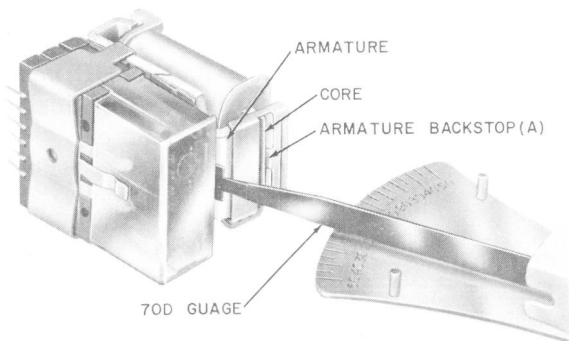
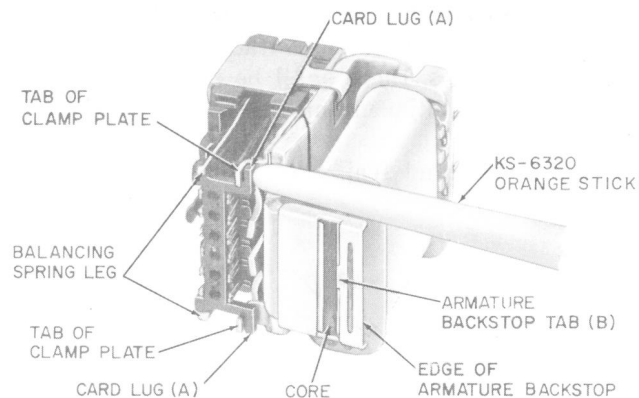

Fig. 4—Measuring Armature Back Tension
Fig. 5—Checking Balancing Spring
2.05 Armature Back Tension Fig. 4(A):
Use the 70D gauge, as shown in Fig. 4, applied at the center of the armature in front of the clamp plate shown in Fig. 5. Care shall be taken that the reed of the gauge does not touch the cover.
2.06 Balancing Spring Tension [Fig. 5(A) and (B)]: With the relay in the unoperated position, the combined tension of the balancing spring legs shall be sufficient to hold the card lugs against the outer tabs of the clamp plate and the armature backstop tab against the core.
To check this requirement, electrically operate and release the relay. Using the KS-6320 orange stick, apply pressure to the edge of the armature backstop toward the core (see Fig. 5) and then alternately to each card lug toward its associated clamp plate tab. The requirement is met if there is no observable movement of the armature backstop tab with respect to the core and no observable movement of either card lug with respect to its associated clamp plate tab.